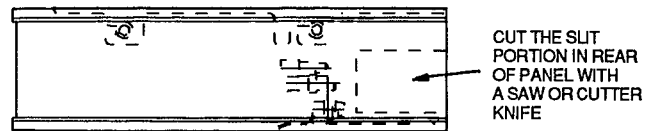

Fig. 9 - Removing Rear Knockout in Side Panel If Right-Side Piping Connection is Used
3. Open knockout if right-side piping connections are required (Fig. 9).
4. Cut the slit portion in rear of the side panel with a saw or cutter knife. (Fig. 9).